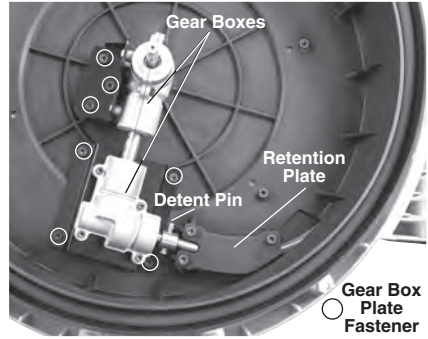

Figure 14 – Drain Cleaner Housing Opened
- Remove the fasteners holding the housing closed (4 mm hex wrench) and open the housing (*Figure 14*).
- Remove retention plate fasteners and retention plate (*Figure 14*).